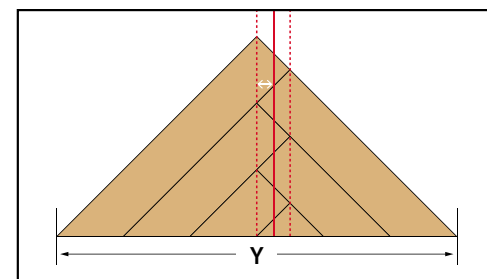

Figure 29
- Divide this number by two and get the X measurement. The Y measurement is the width of the triangle at its widest point as show in (Fig 29).